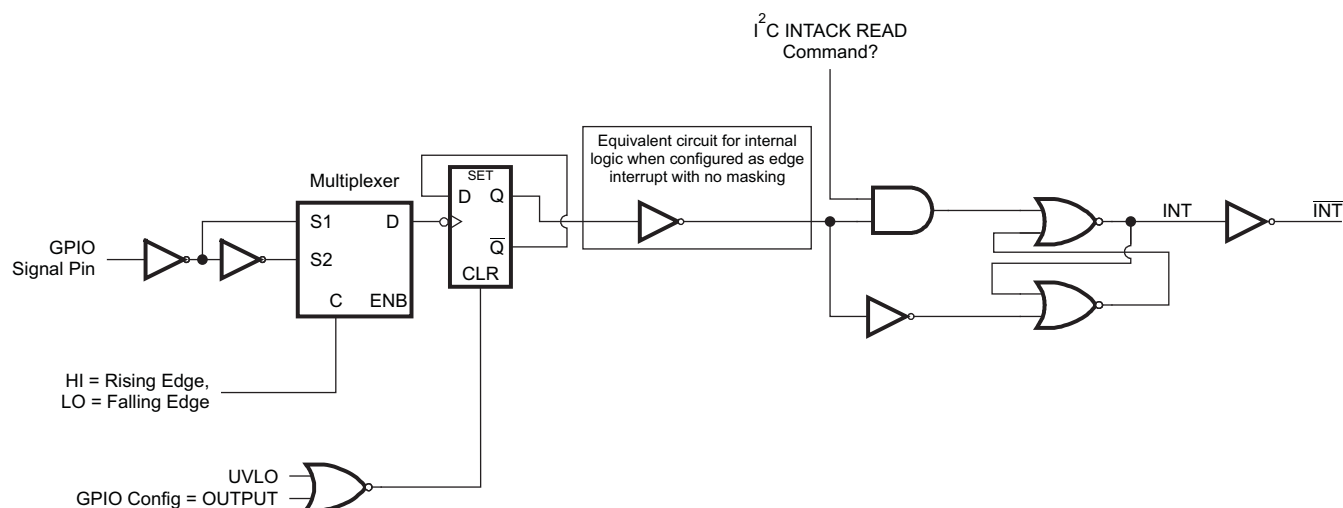

Figure 58. GPIO 1 or GPIO2 Configured as an Interrupt Request Input
See Figure 58 for a description of the logic used for GPIO1 and GPIO2 inputs when configured for edge-triggered interrupt generation. The signal from the GPIO pin input is double-latched before being sent to the interrupt controller logic. The inversion of the Q output from the first flip-flop must be HI to allow the output latch to be cleared when a READ command occurs. On the initial edge of the GPIO signal, the Q output of the flip-flop is set (HI). The $\overline{\text{INT}}$ line is asserted (LO) after the initial selected edge from the GPIO pin. On the next falling (or rising) edge of the GPIO pin, the interrupt can again be cleared (which allows the $\overline{\text{INT}}$ pin to go back high). The $\overline{\text{INT}}$ signal is cleared (set back HI) after an I²C READ operation is performed.